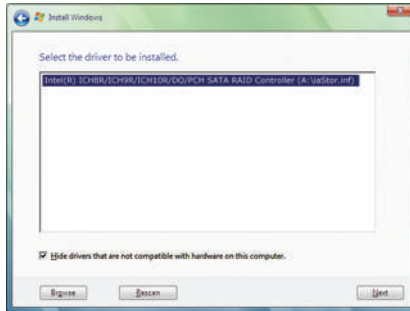

Figure 7
When a screen as shown in Figure 7 appears, select **Intel(R) ICH8R/ICH9R/ICH10R/DO/PCH SATA RAID Controller (A: 'iaStor.inf')** and click **Next**.